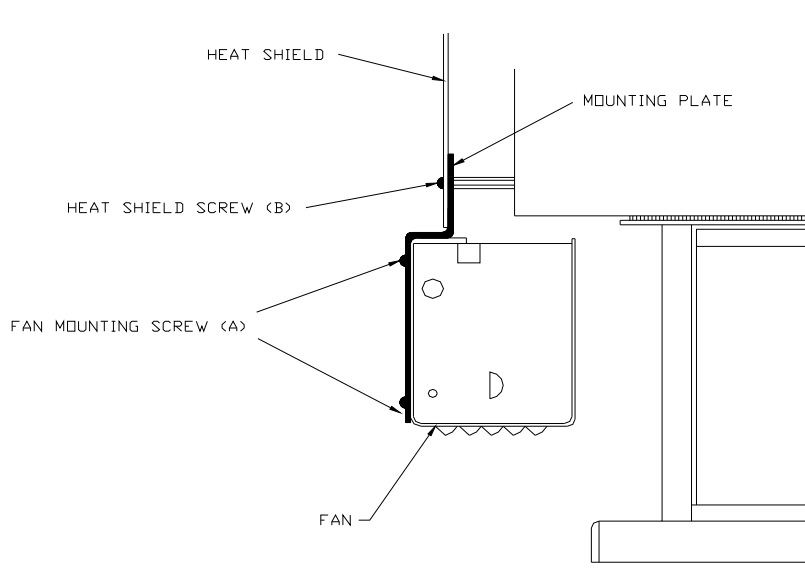

Figure 2
2. Remove the two bottom heat shield screws (b) and locate the fan and mounting plate assembly between the inside of the heat shield and the two heat shield spacers as shown in figure 2.